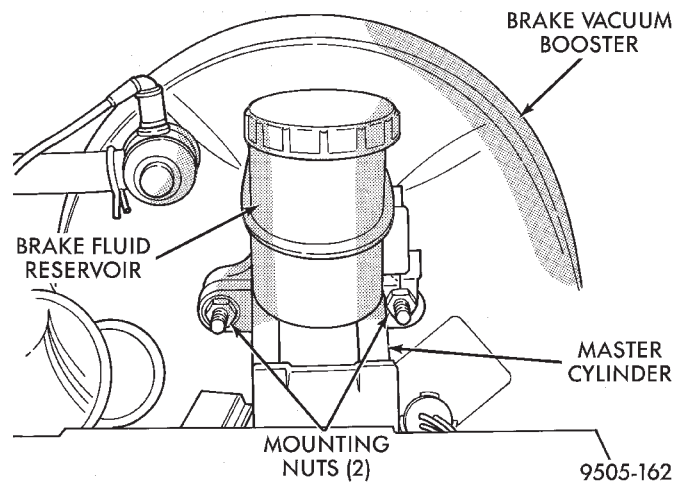
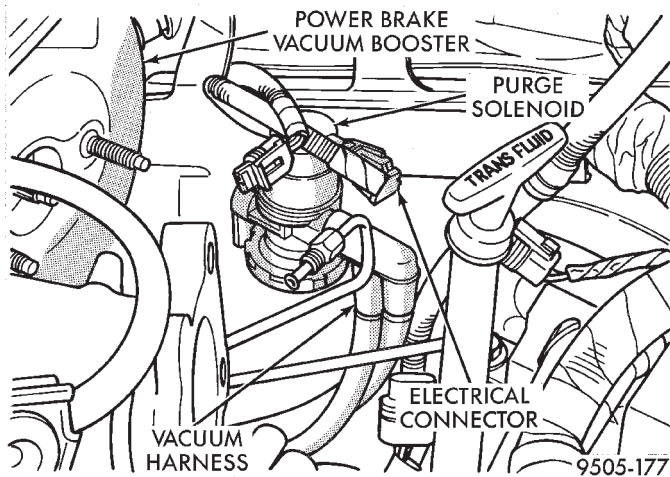
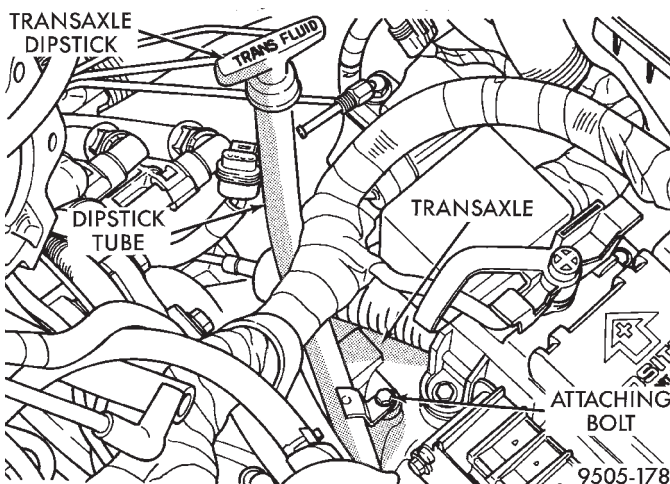
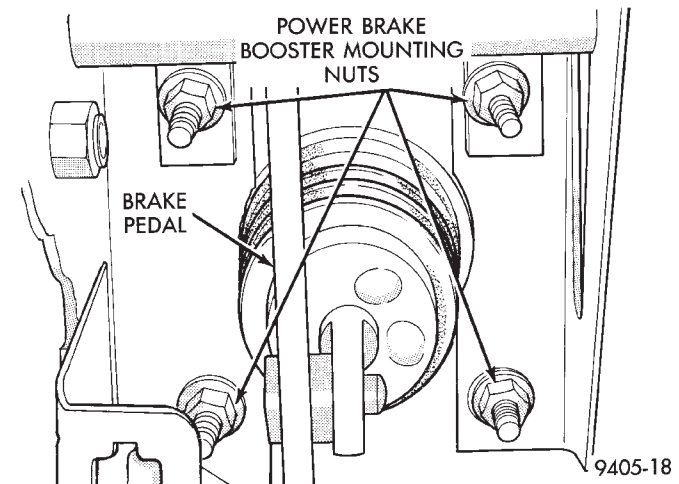

Fig. 74 Master Cylinder Mounting To Vacuum Booster
Fig. 75 Purge Control Solenoid
Fig. 76 Transaxle Dipstick Tube
Fig. 78 Power Brake Vacuum Booster Mounting
(10) Remove the 2 nuts (Fig. 74) attaching the master cylinder assembly to the power brake vacuum booster. Then remove the master cylinder assembly from the power brake vacuum booster.
(11) Remove the vacuum harness connector and electrical connector from the purge solenoid (Fig. 75).
(12) Remove dipstick tube attaching bolt (Fig. 76). Then remove the dipstick tube and dipstick (Fig. 76) as an assembly from the transaxle.
(15) Remove the 4 nuts attaching power brake vacuum booster to dash panel. Nuts are accessible from under dash panel in area of the steering column and pedal bracket assembly (Fig. 78).
- (1) Position power brake booster onto dash panel.
- (2) Install and torque the 4 power brake vacuum booster mounting nuts (Fig. 78) to 29 N·m (250 in. lbs.) torque.
- (3) Using lubriplate, or an equivalent, coat the surfaces of the brake pedal pin that contact the power brake vacuum booster input rod.
- (4) Connect power brake vacuum booster input rod to brake pedal pin and install a **NEW** retaining clip. **Use only a new retainer clip DO NOT USE the old clip.**
- (5) Install the dipstick tube in transaxle (Fig. 76). Install dipstick tube attaching bolt and securely tighten (Fig. 76).
- (6) Install the vacuum hoses on the check valve in the power brake vacuum booster.
- (7) Position purge control solenoid (Fig. 75) on left front strut tower and install and securely tighten attaching bolt. Then correctly route and install the vacuum harness connector and electrical connector (Fig. 75) on the purge control solenoid.
- (8) Position master cylinder on studs of power brake unit, aligning push rod on power brake vacuum booster with master cylinder push rod.
- (9) Install the 2 master cylinder to power brake unit mounting nuts (Fig. 74). Tighten the 2 mounting nuts to a torque of 28 N·m (250 in. lbs.).